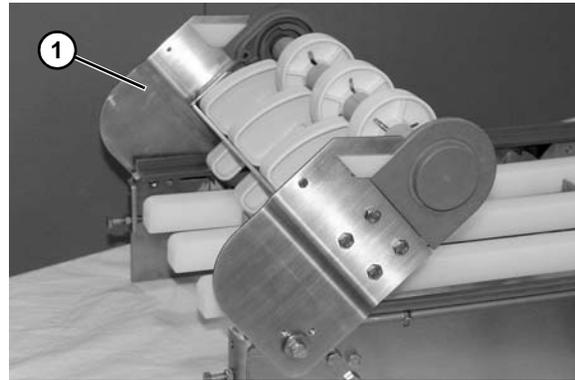

Figure 39
5. Rotate idler end (Figure 39, item 1) upward as shown.